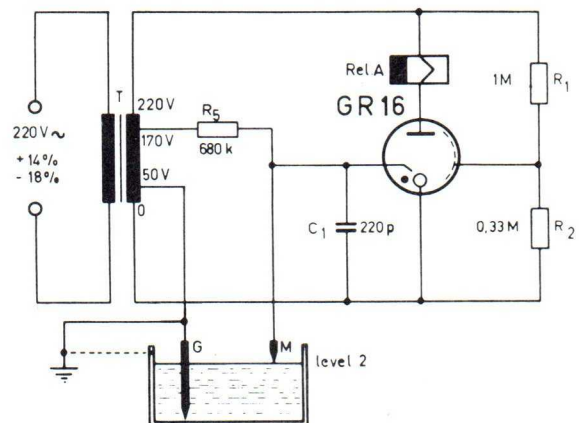

Fig. 2
3.1.2 Baised-on circuit, Fig. 2